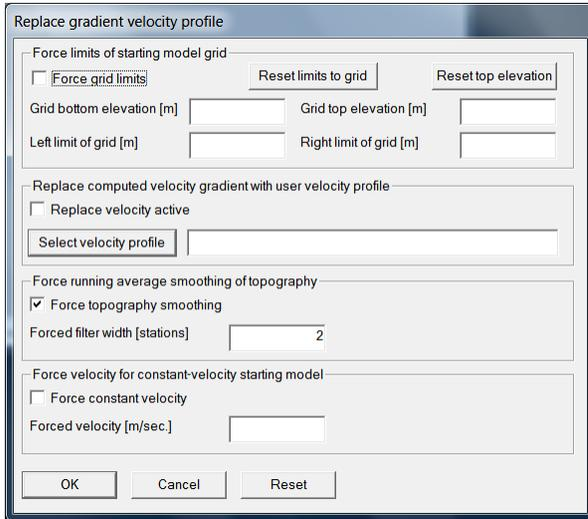

Fig. 21 : **Smooth invert|Custom 1D-gradient velocity profile** . Force topography smoothing over 2 stations.
- select *Smooth invert|Custom 1D-gradient velocity profile* and edit as in Fig. 21.
Fig. 17 : fail-safe laterally averaged 1D-gradient starting model obtained with **Smooth invert|WET with 1D-gradient initial model**. The DeltatV 1D velocity profiles are laterally averaged (Sheehan 2005). Force topography smoothing over 2 stations (Fig. 21). Surfer plot limits as in Fig 24. Extrapolate starting models and tomograms over 32 stations in Header|Profile (Fig. 25). Red dots are shot points. Grey dots are receivers.